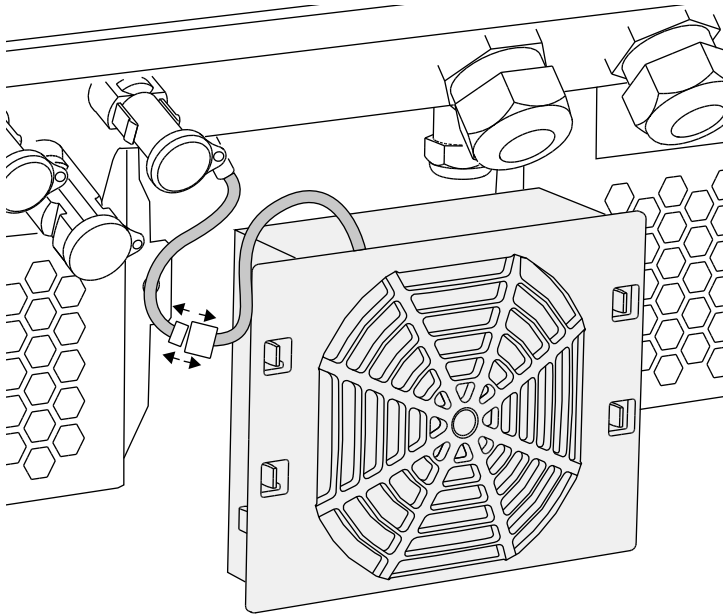

Fig. 72: Pull out fan cable
4. Completely remove the fan unit from the housing. To do this, disconnect the plug of the fan cable. ↗ **Fig. 72**